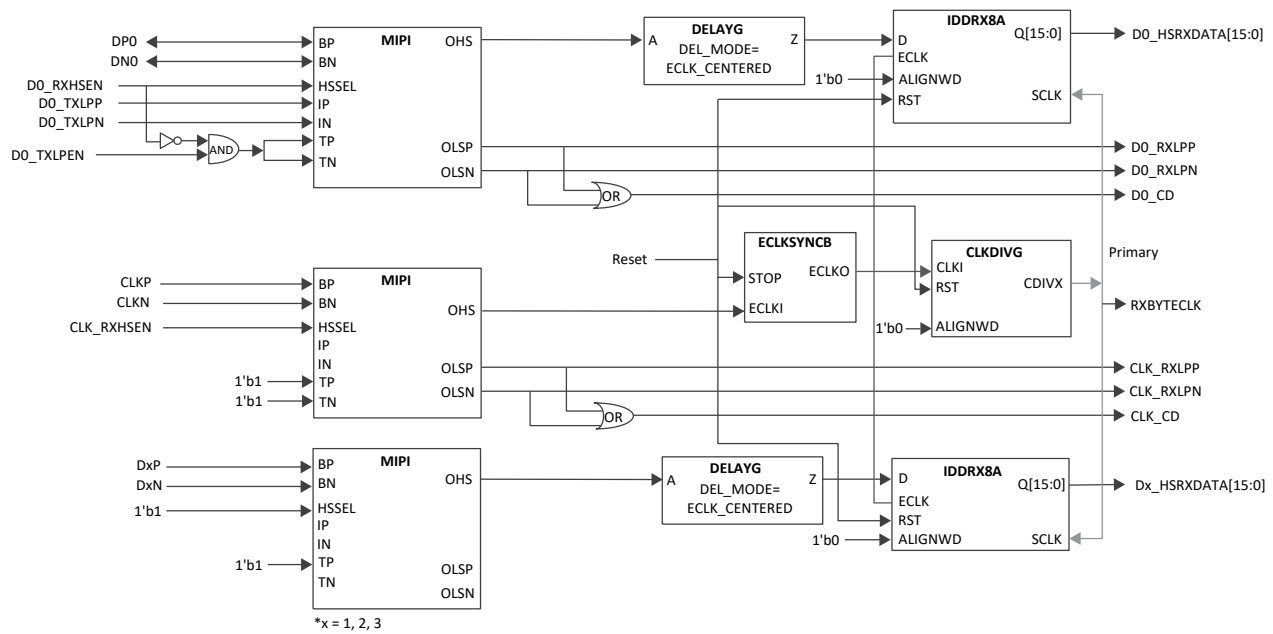

Figure 5.14. MIPI DSI Receive Interface with Soft D-PHY Module
- The HSSEL input of the MIPI buffer is used to switch between the High-Speed and Low-Power modes. The transitions between High-Speed (HS) and Low-Power (LP)
- The OLSP and OLSN outputs of MIPI are active and transmitting data on the RXLPP and RXLPN ports to the fabric as shown in Figure 5.14. The OLSP and OLSN can also be inputs, it depends on the state of RXHSEN and TXLPEN which control TP/TN tristate inputs. The OLSP and OLSN states are also used to generate the D0_CD or CLK_CD signals which can be monitored by the fabric for contention detection.
Note: Figure 5.14 shows the X8 gearing interface. X4 is similar but uses the IDDRX4C primitive.